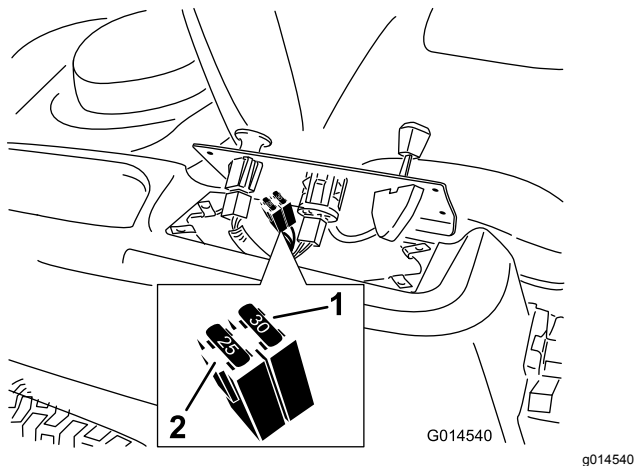

Figure 39
2. Lift the control pane up to access the main wiring harness and fuse block (Figure 39).
3. To replace a fuse, pull out the fuse to remove it (Figure 39).